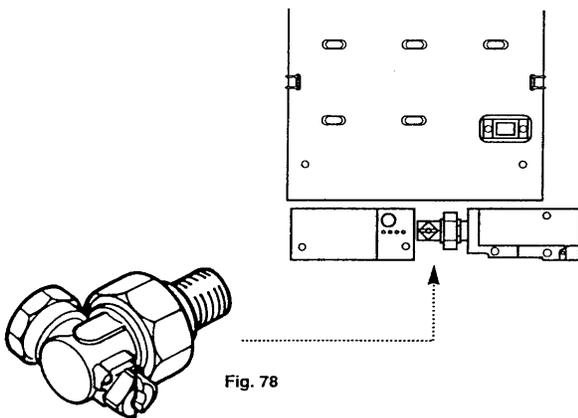

Fig. 78
1. Connection to the gas supply is R ½ (½ in BSPT internal) located at the rear of the gas cock-(Fig. 78).